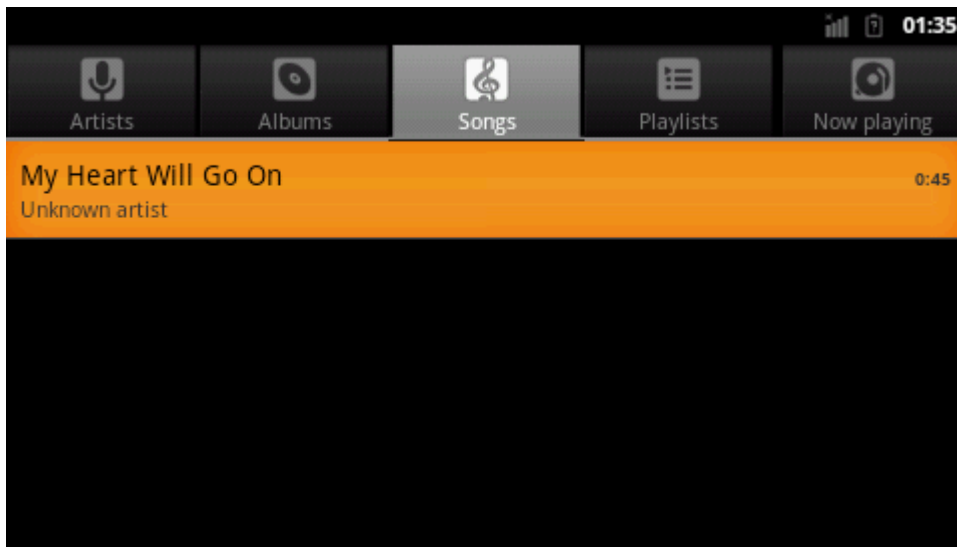

Figure 5-20
(3) Select songs and play. Refer to figure 5-20: